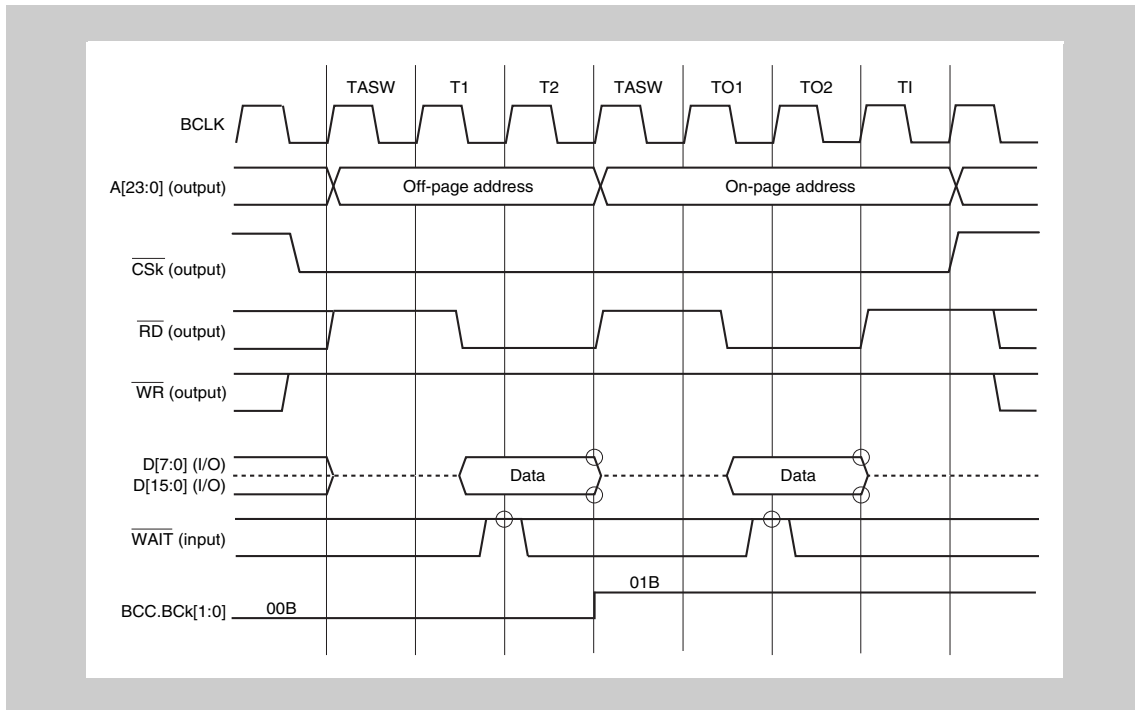

Figure 7-20 Reading page ROM with address setup wait states and idle state insertion
- BCC.Bck[1:0] : see Figure 7-20